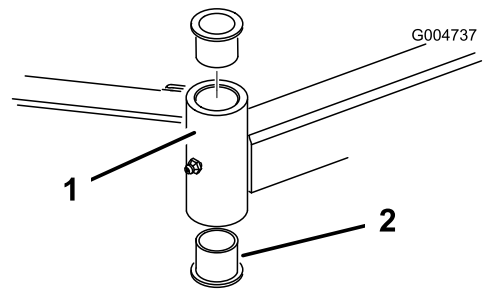

Figure 93
4. Insert a pin punch into the top or bottom of the mounting tube and drive the bushing out of the tube (Figure 93).